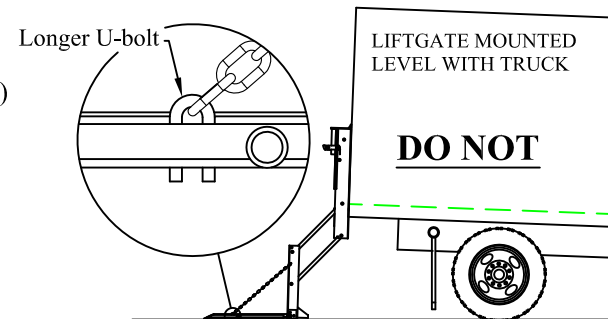

Figure 12: Incorrect liftgate mounting.
1. **Replace** the standard U-bolt, which connects the chain to the platform, with a longer U-bolt (Figure 12). The replacement U-bolt kit (PART#4534) must be purchased from Tommy Gate Company.